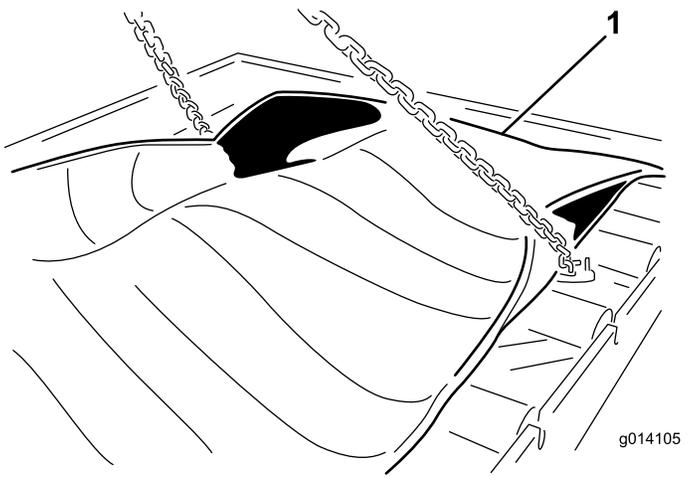

Figure 60
23. Remove the 24 bolts to release the cartridge (Figure 60).